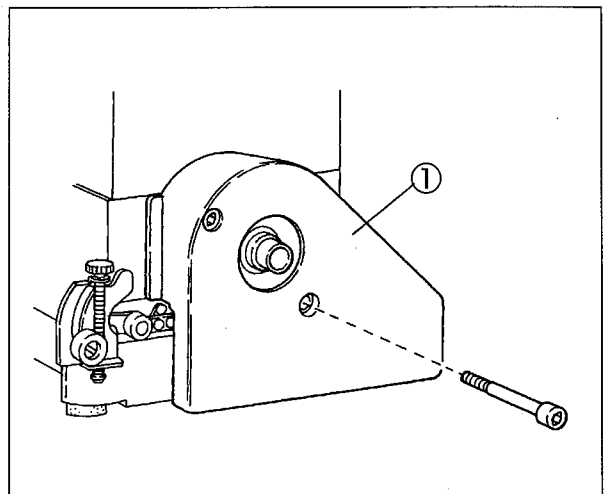
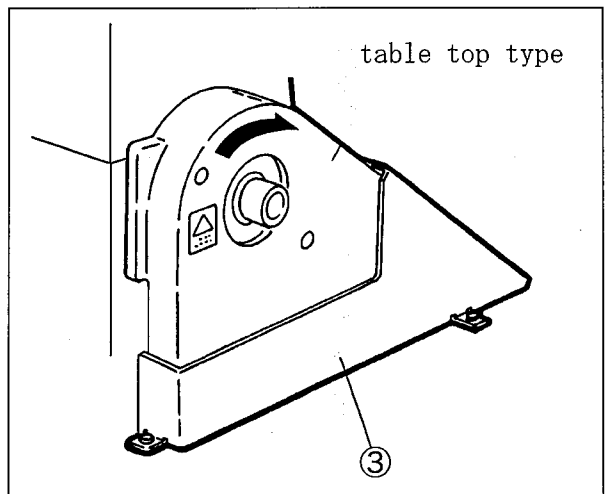

Fig. 12
Fig. 14
- (1) Install the belt cover ①. (See Fig. 12)
- (2) Push the belt cover support ② to the belt cover ① to install it.
- (3) Fix the belt cover(lower) ③ on the machine table only for table top type. (See Fig. 14)